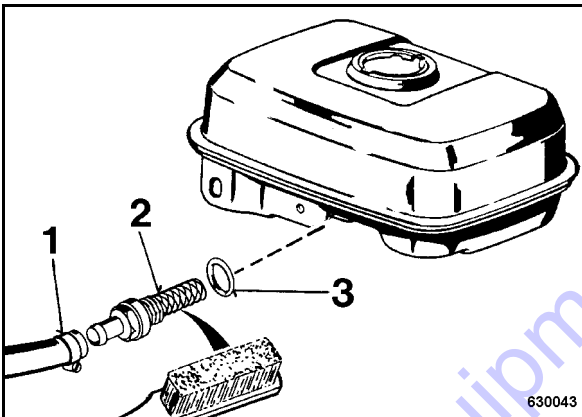

Fig. 43
- Open the hose clamp 1 (Fig. 43), pull off the hose.
- Unscrew fuel screen (2).
- Check the seal (3).